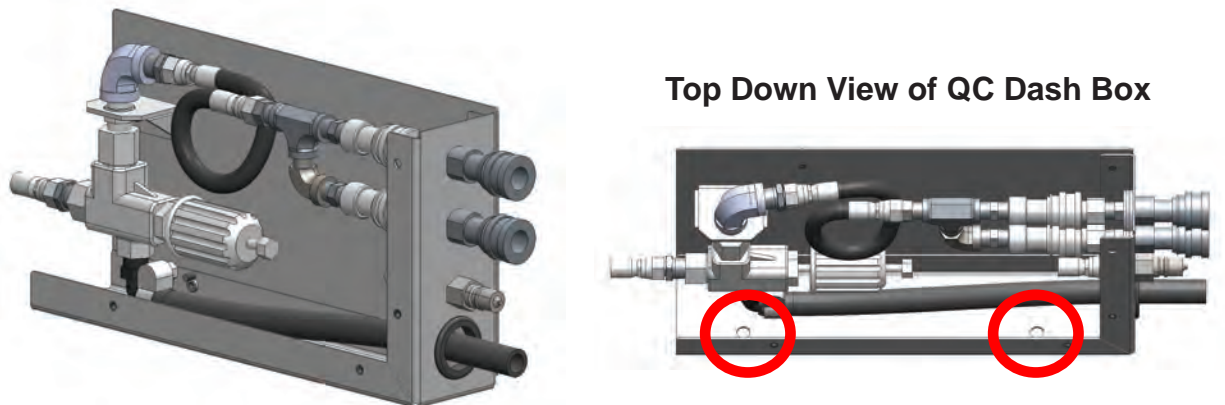

Figure 63. Lift Off Top/Left Panel and Locate 2 Holes Inside Box
3. Lift the top/left panel off the Box to access the 2 holes on the bottom of the Box (see Figure 63).